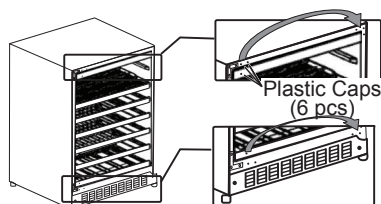

Figure 3
4. Pull out the 6 plastic caps at the front left corner of the cabinet and move them all to the right side. (See Figure 3.)